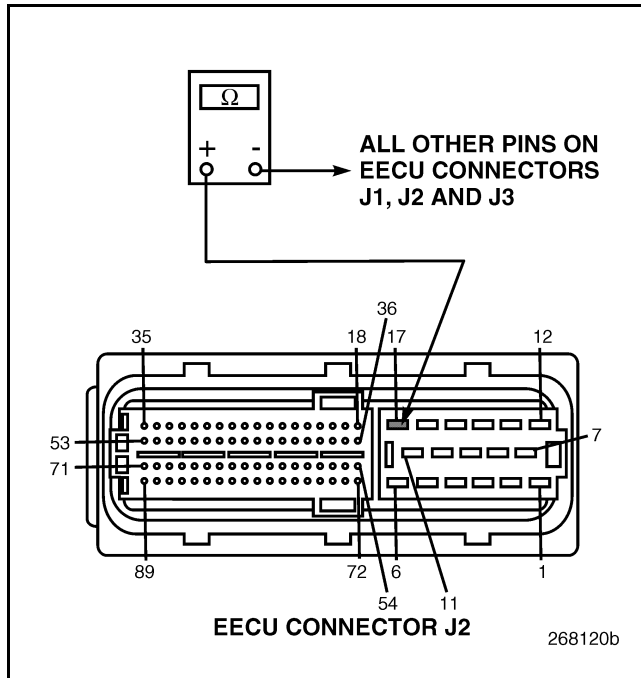

Figure 533
4. Check for continuity between the EECU harness connector J2 pin 17 all other pins on EECU connectors J1, J2 and J3 (see Figure 533).